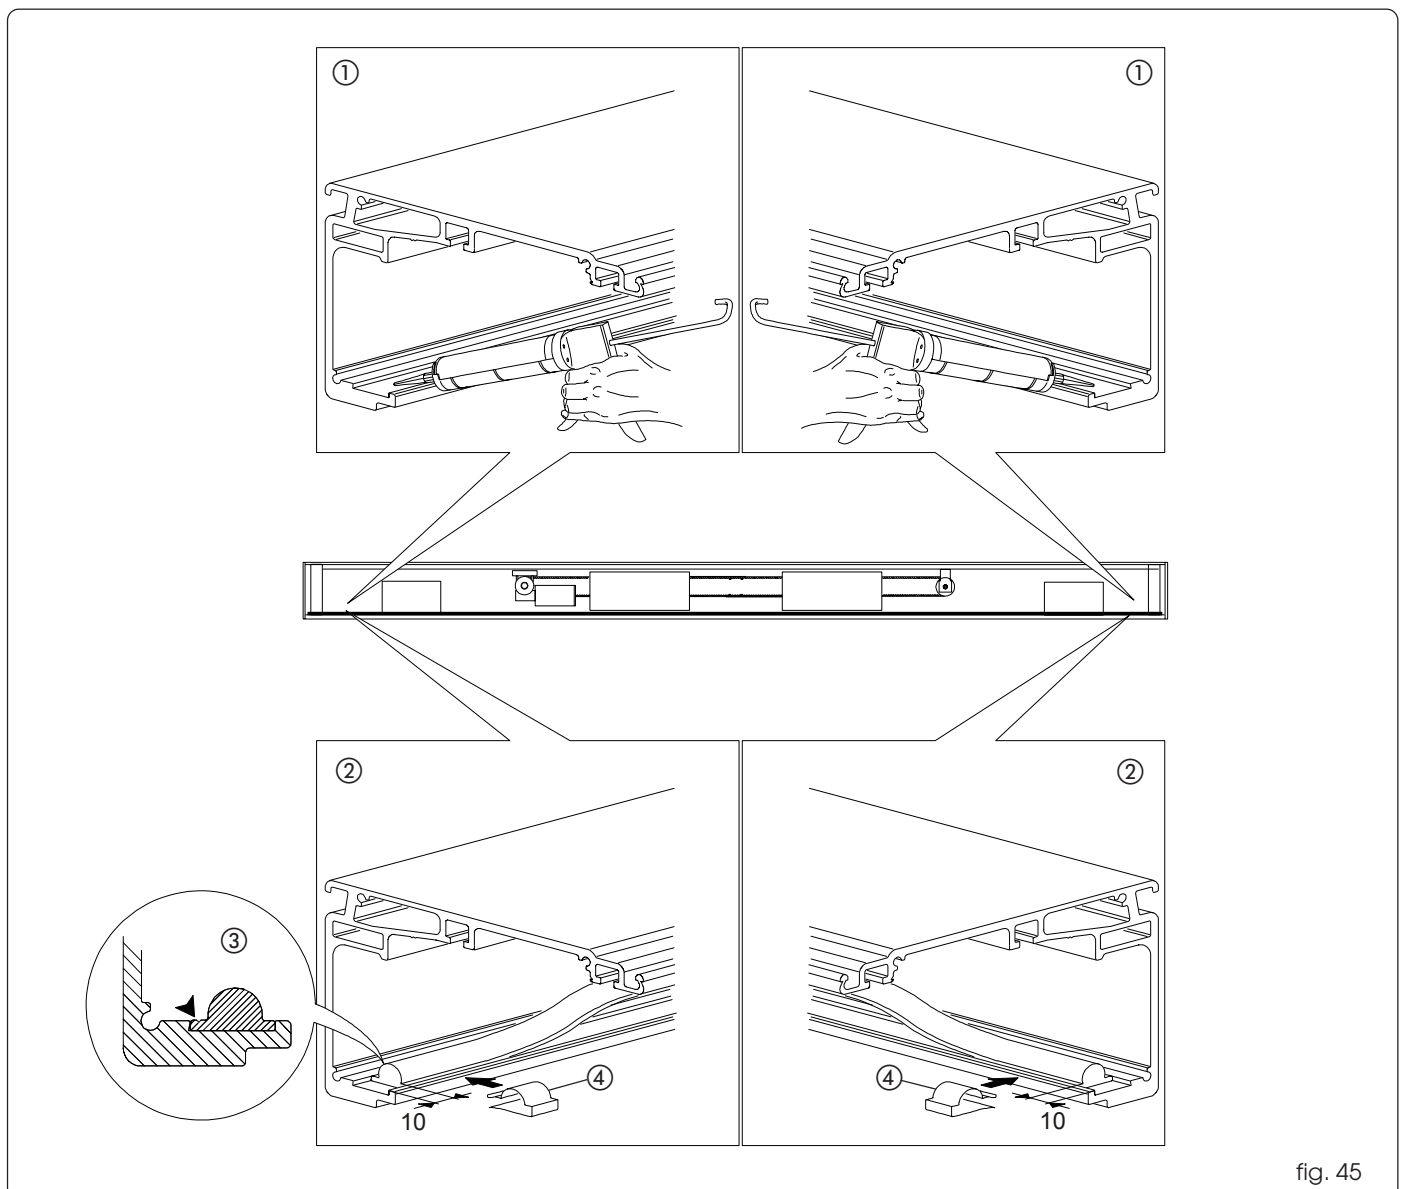

fig. 45
Cut the sliding guide 20 mm. shorter than the support profile. Spread a thin film of silicone on the seat of the load bearing profile (fig. 45 ref. ①) and position the sliding guide so that 10 mm. of space remain on both sides of the profile (fig. 45 ref. ②). Keep pressing the sliding guide against its seat and make sure that no dips develop. Carefully clean off any silicone residues.
N.B.: the guide is not symmetrical; the side with the groove must face the wall (fig.45 ref. ③).
Secure the sliding guide using the supplied elastic pliers (fig. 45 ref. ④). Position 2 at the ends of the header and one in the middle.